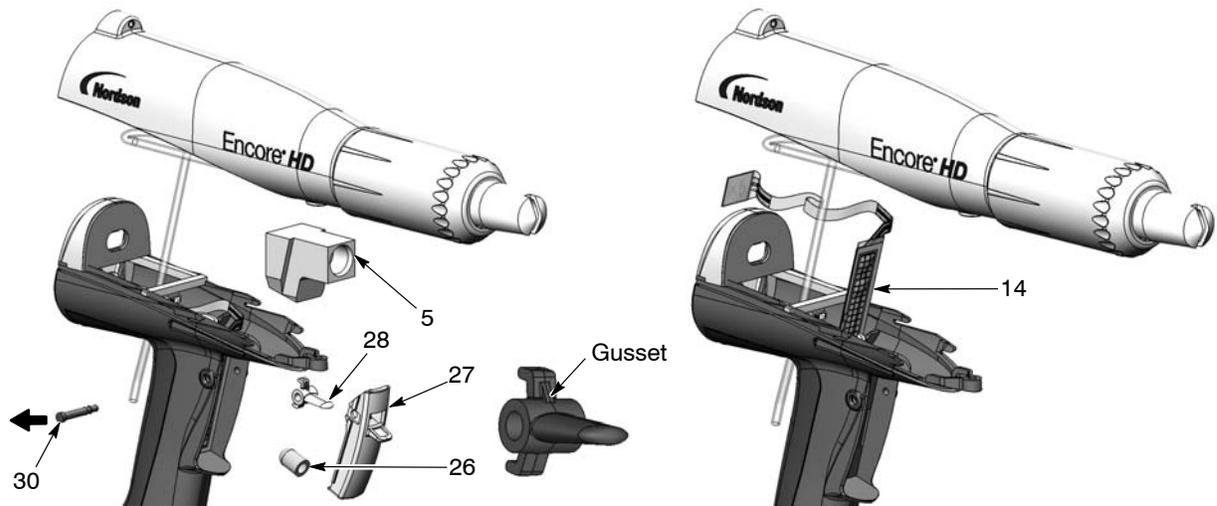

Figure 5-8 Trigger Switch Replacement
1. See Figure 5-8. Orient the new switch (14) with the grid facing the front of the gun, then carefully feed the square, bottom end of the switch through the slot in the handle.
4. Install the purge trigger (28) into the spray trigger (27) with the gusset oriented upward as shown. **Do not install the purge trigger upside down.**
5. Position the triggers in the handle and hold them in place while pressing the axle (31) through the handle and triggers until the head of the axle is flush with the handle. The axle will snap into place when properly installed.